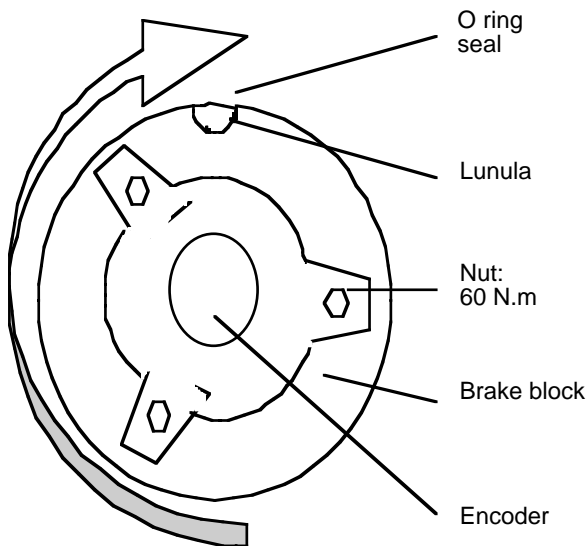

Fig. 3 - Lunula
- Screw and unscrew the bracer until a 0,3 mm gauge can be inserted, but not two gauges together (0,31). Insert the gauges between the moving part of the brake and the brake block adjacent to the bracer (see fig 3 lunula).